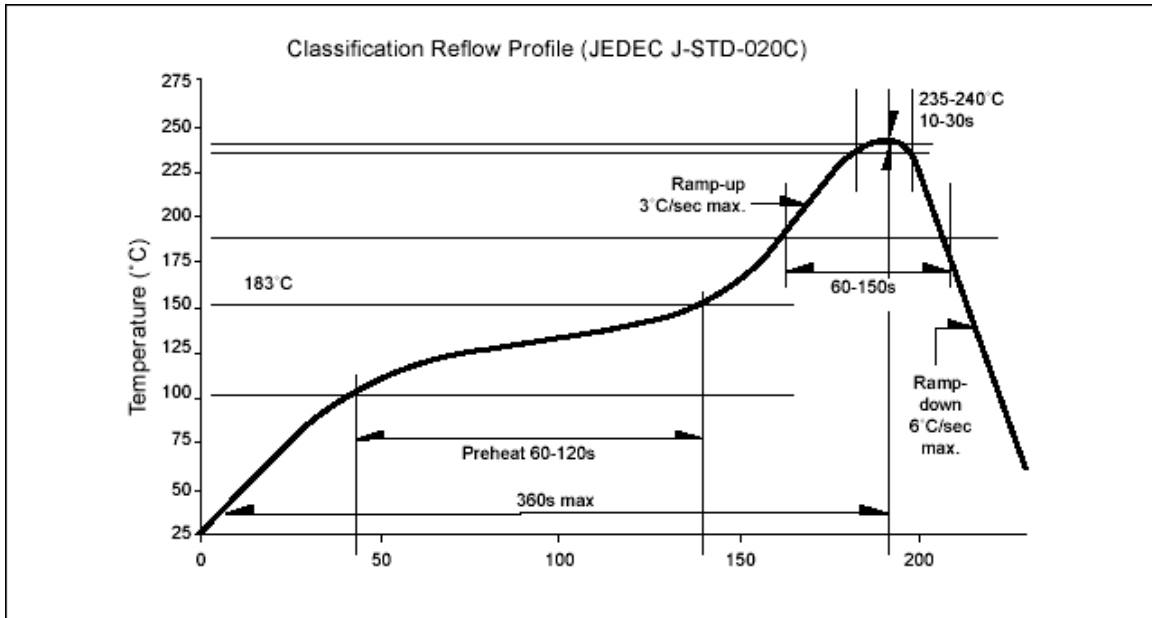

Figure 1: Recommended Sn-Pb IR-Reflow Soldering Profile
- The temperature profile as shown in Figure 1 and 2 is recommended for soldering SMTLED.